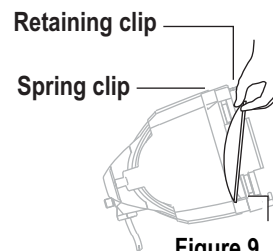

Figure 9
- Step 1: Position the luminaire with the front of the unit (lens side) facing you, and tilted slightly upward. See Figure 9.